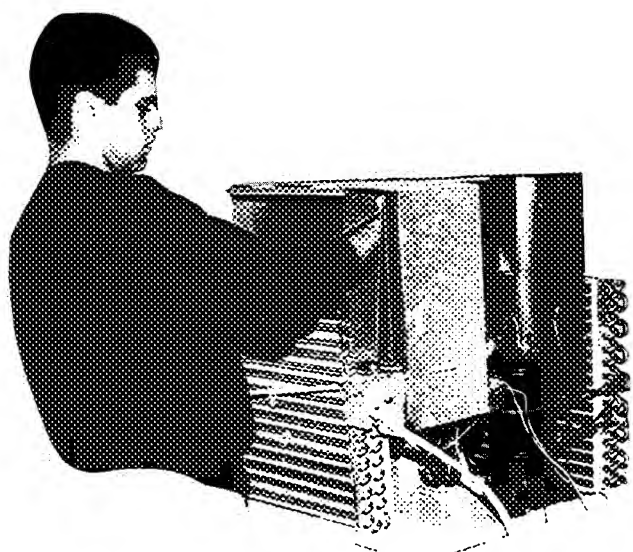

Fig. 19 — Removing Air Handling System
8. Carefully lift assembly from chassis. See Fig. 19.